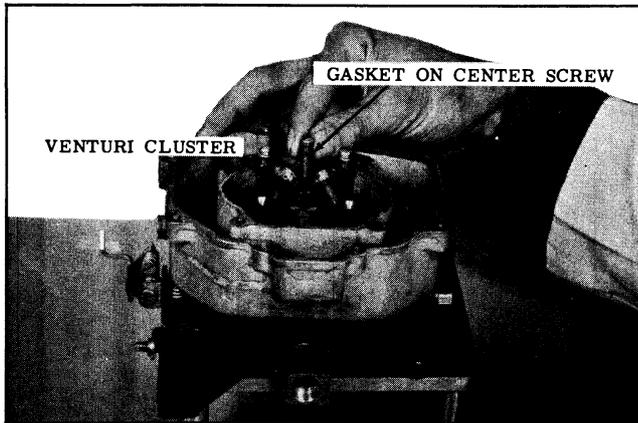

Fig. 8-133 Installing Venturi Cluster
4. Replace cluster and gasket, tightening screws evenly and securely. Make sure center screw is fitted with gasket to prevent pump leakage. (See Fig. 8-133)